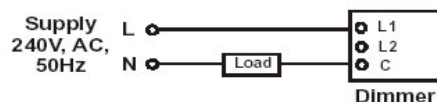
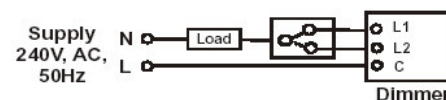

Fig. 1 One Way Switching
Fig. 2 Two Way Switching
- 6) Insert the bared ends of the wire fully into the relevant terminals and securely tighten the Terminal Screws. (Refer to fig. 1 for one way switching and fig. 2 for two way switching).